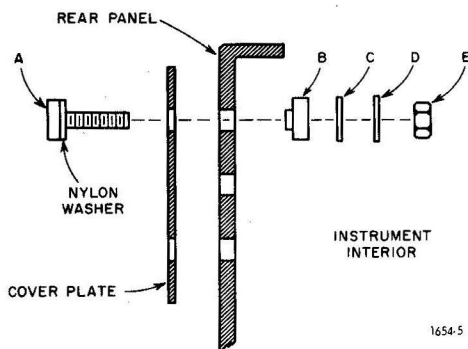

Figure 2-6. Removal of cover plate from rear panel.
- a. On the rear panel: remove the two sets of Phillips-head screws and their associated nylon washers (A, Figure 2-6), nylon washers (B), flat washers (C), lockwashers (D), and nuts (E).
j. Mount the cover plate (see Figure 2-6) on the front panel, using the previously removed hardware (parts A through E).